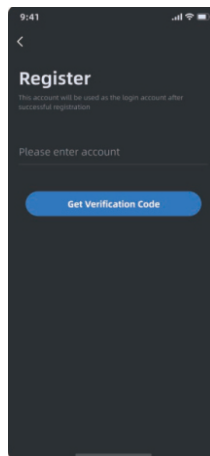

Figure 4
4) Figure 4: Enter the account and click "**Get Verification Code**" to enter the verification code page.